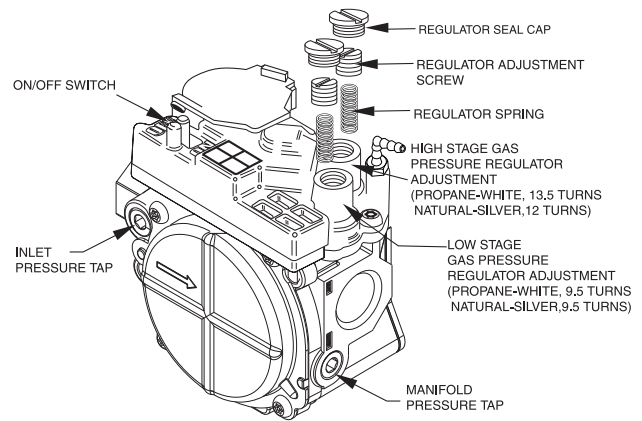

Fig. 28 - 2 Stage J and G Gas Valves
NOTE: For the 2-Stage furnaces with a Series J and Series G gas valve (see Fig. 28), they **MUST have both regulator springs replaced and the gas valve MUST be pre-adjusted.**
For J and G valves, see Fig. 28.
13. Apply pipe dope sparingly to end of inlet gas pipe plug and install into unused end of 1/8 in. tee. Use a small back-up wrench on tee when tightening gas inlet pipe plug. (See Fig. 28.)
3. Attach manometer to manifold pressure tap on gas valve. (see Fig. 28.)